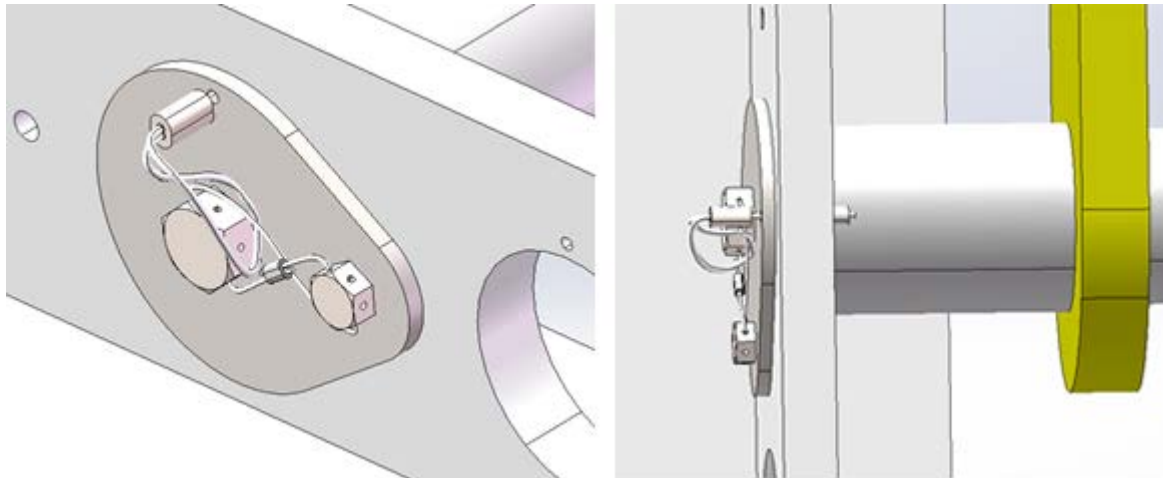

Figure 5: Tension cylinder mounting and retainer plate
1. Wire the keeper plate (850-89-0) for the tensioning cylinder mounting pin (Figure 5).